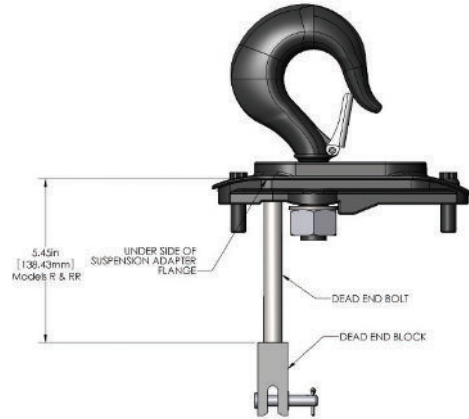

Figure 7. Hook Suspension
Remove the hook suspension,(2) suspension screws, (1) dead end pin, (1) washer, and (1) cotter pin from the packaging. It should be noted that the suspension includes a dead end bolt and block for supporting the dead end of the load chain as shown in Figure 7. If not previously assembled, assemble the dead end bolt and block through the suspension adapter as shown in Figure 7.
Check the position of the pin hole in the dead end block to make sure it has not been disturbed from its factory setting. The distance from the top of the pin hole to the bottom of the hoist should not exceed 1/4" (6.35mm) for Models E,E-2, H, H-2 and 7/16" (11.11mm) for Models R, R-2, RR, RR-2. If the distance is not correct, adjust the position of the dead end block to obtain the proper distance (see fig. 7)